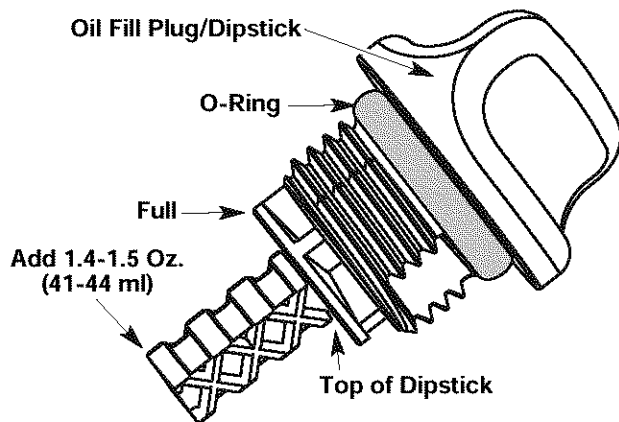

Fig. 25
5. Remove the oil fill plug/dipstick and check oil level. Oil should be up to the top of the dipstick (Fig. 25).